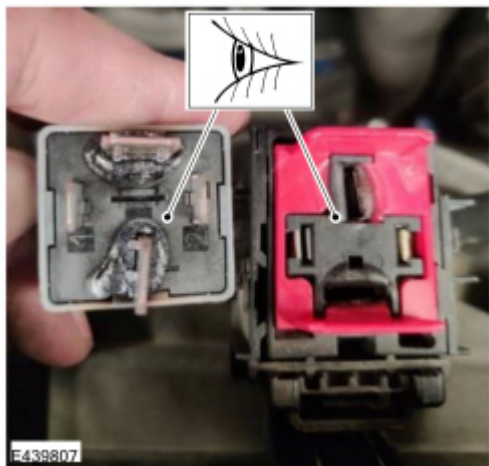

Figure 5 - Cooling fan relay and wiring damage
NOTE: The illustrations below are a guide only. In some cases, the damage to the relay and/or relay holder may not be as immediately obvious as that shown in the illustrations, careful inspection is recommended. (Figure 5 to 7)
7. Is any damage to the cooling fan relay or terminal connector identified, similar to that shown in Figure 5 to 7 above?